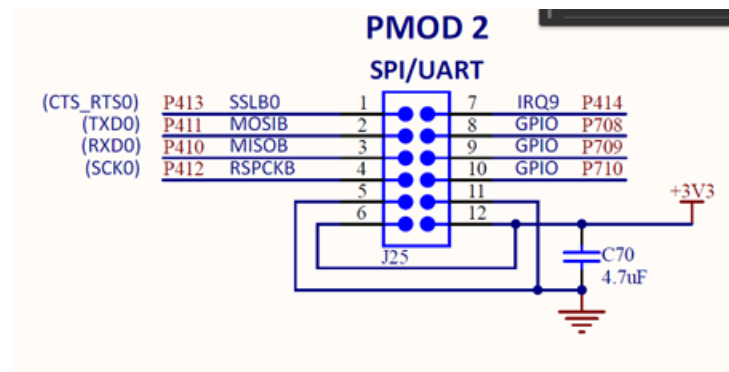

Figure 13. PMOD Connection
3. Connect jumpers between P1_00 and FD0_SCLK_DA ,P1_01 and FD1_DI_DA,P1_02 and FD2_D0_DA,p1_03 and FD3_CS_DA. PMOD Connections between J219 and PMOD2 shown in Figure 13.